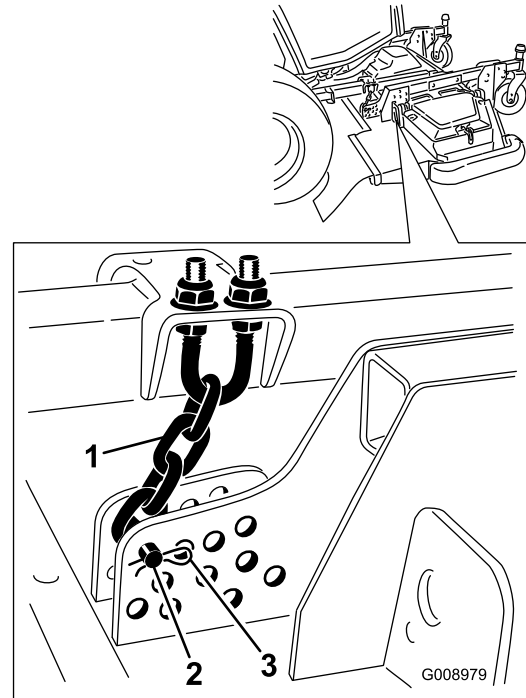

Figure 2
5. Remove the hairpin cotter and clevis pin securing the height-of-cut chains to the rear of the cutting unit (Figure 2).
10. Install clevis pins and hairpins that secure the height-of-cut chains to the rear of the cutting unit (Figure 2).